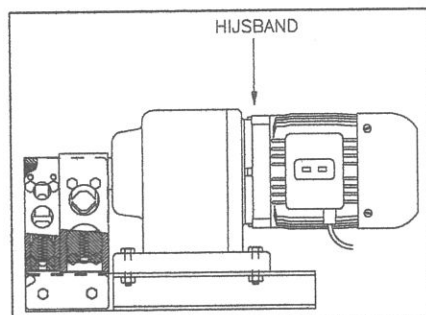

Figure 5.2-1: Position of hoisting strap
- Remove the pipe notcher from the packaging with a hoisting strap placed around the motor. See Figure 5.2-1.
For vertical lifting with a hoist, a hoisting strap must be installed as shown in Figure 5.2-1.